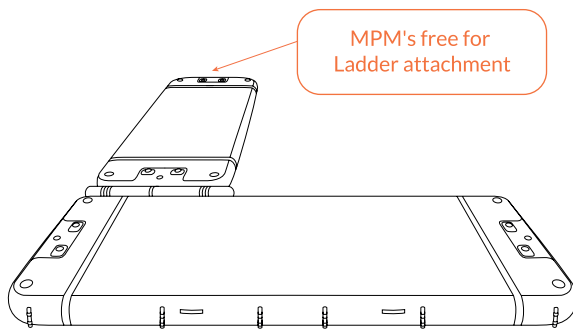
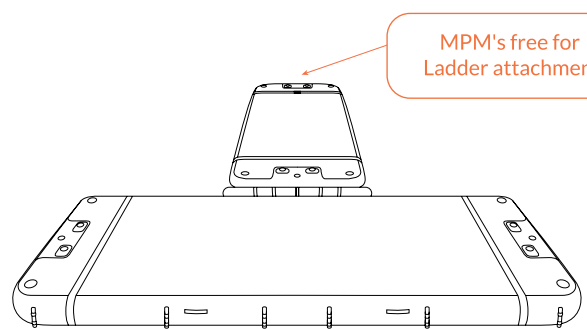
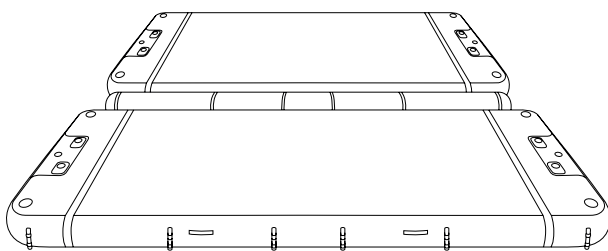
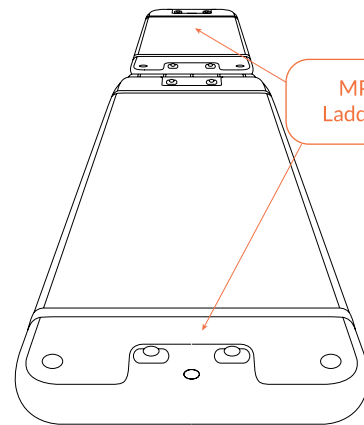

Fig 72 - L-shape
Fig 73 - T-Shape
Fig 74 - Side-by-side
Fig 75 - End-to-end
Due to the unique Air Toggle connection system, multiple Platforms can be connected together in several useful configurations L-shape (Fig 72), T-shape (Fig 73), side-by-side (Fig 74) or end-to-end (Fig 75).
1. Start by choosing which joining configuration you're going to use Fig 72, Fig 73, Fig 74 or Fig 75.